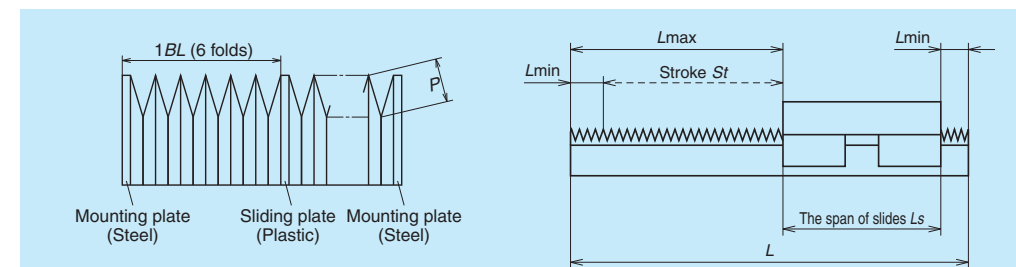

Fig. 7.10
- Bellows fastener is available only for horizontal mounting positions. For other mounting positions, sliding plate is required (see Fig. 7.10 on page A70.)
- A bellows forms one block (BL) with six folds as shown in Fig. 7.10. The stroke is determined by multiplying by an integer of this BL.